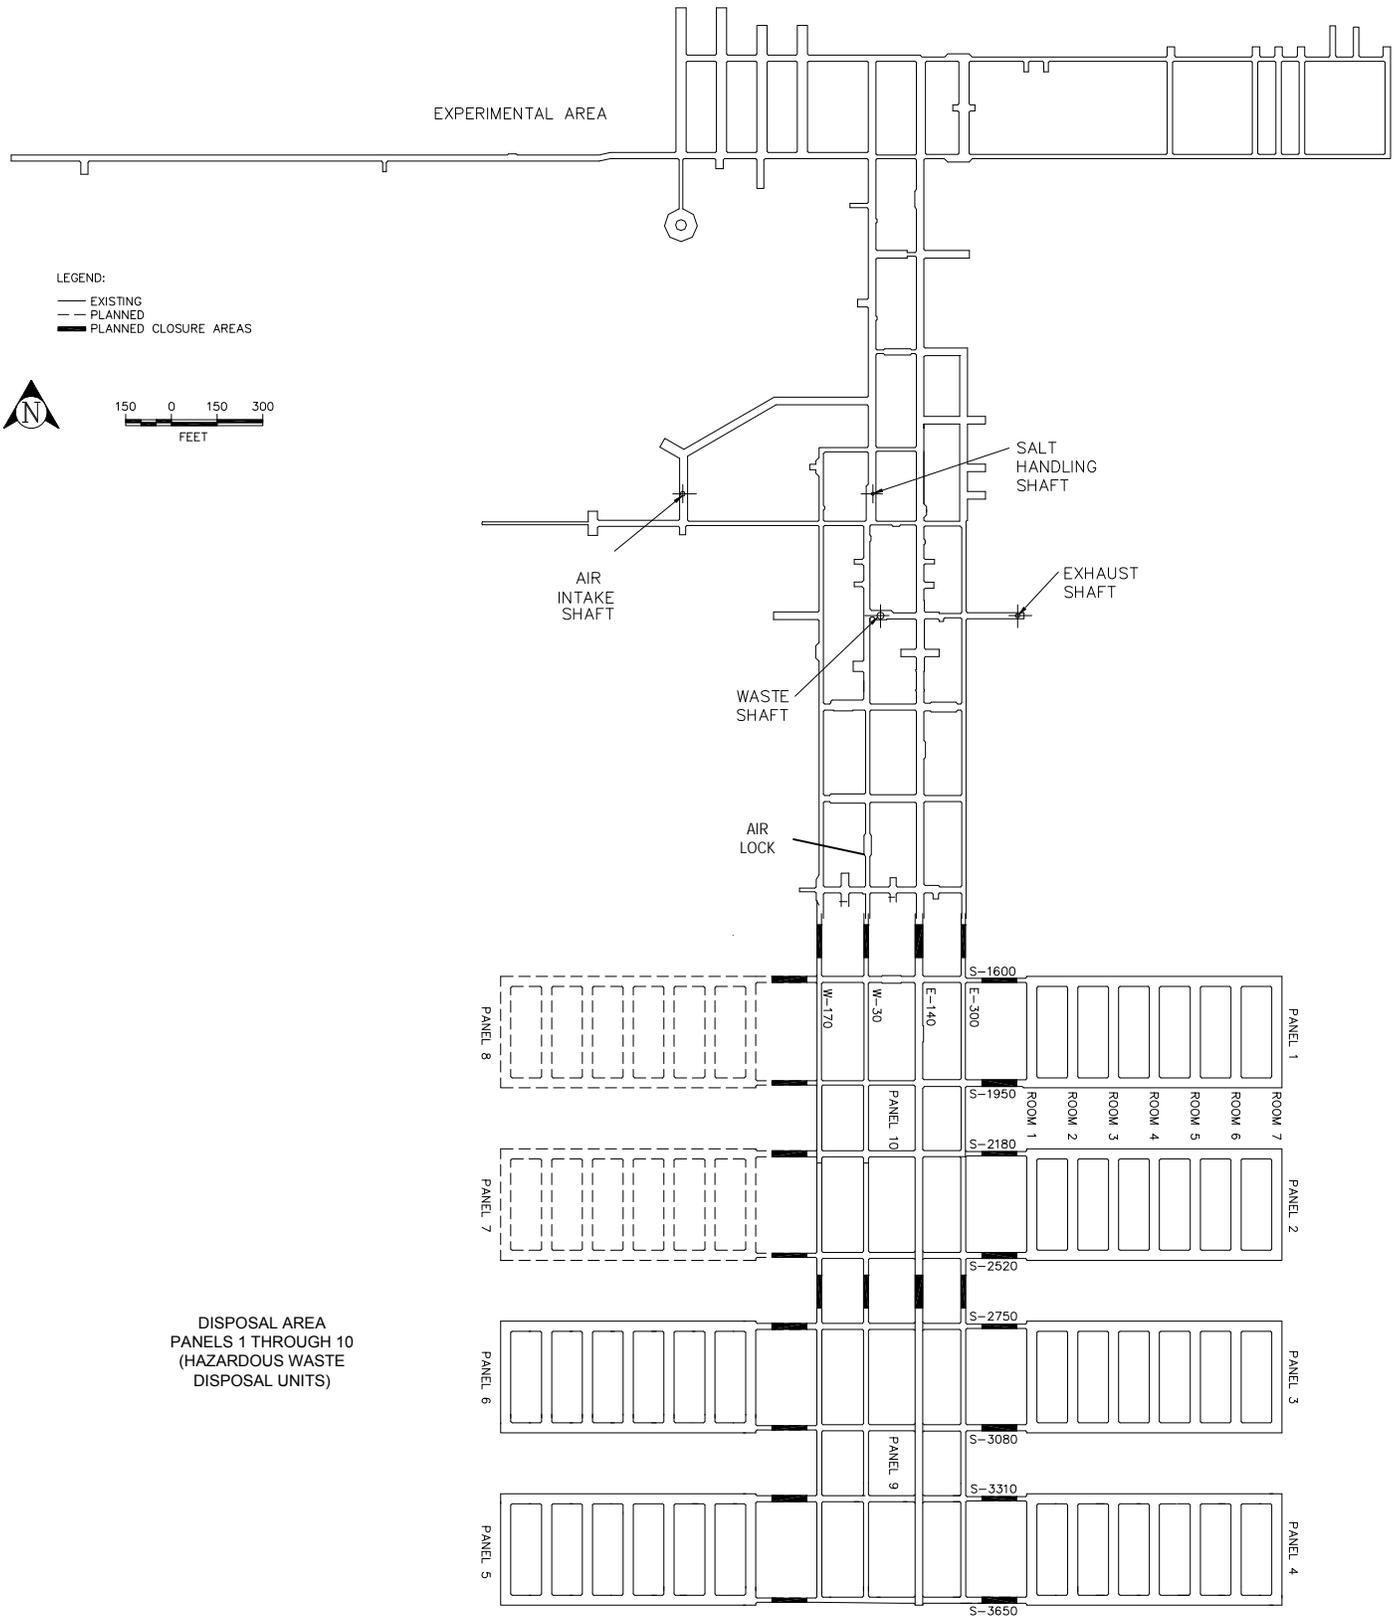

Figure F-3
On October 6, 2010 the Permittees were notified by the NMED that Panel 6 had been constructed in compliance with the requirements in the Permit. Panel 6 has been certified in accordance with the Permit Condition I.E.II and is now available for waste emplacement. Figures F-3, F-5, F-9, I-1, I-6, I2-1, M2-1, N-1 and O3-2 have been revised to show that Panel 6 is now approved for waste emplacement. The change removes the “dashed” lines and replaces them with “solid” lines in order to change the designation from “planned” HWDU to “existing” HWDU.
- a.1. Figures F-3, F-5, F-9, I-1, I-6, I2-1, M2-1, N-1 and O3-2 are included in Attachment B.